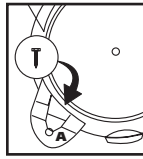

FIGURE 7
5. Secure caster foot to tank with screw provided. **FIGURE 7.**